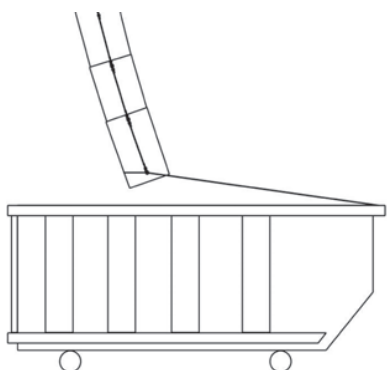

Fig. 71 Gap above container.
2. Ensure that the discharge end of the chute is located above and not inside the container. A maximum gap of 2 to 5 feet between the discharge end of the chute and the rim of the container is recommended. See Fig. 71